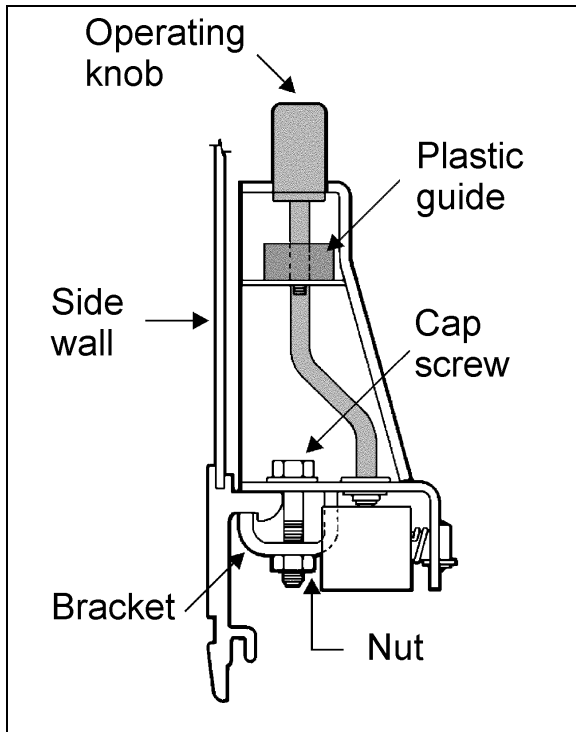

Figure 1: View of the existing mechanism. Shaded parts must be removed.
2. Lift front part of the cushions and remove them. Remove two cap screws, nuts and washers holding seat frame to side wall and retain the two holding brackets. See figure 1.
- Remove the existing control knob, the plastic guide and the metallic rod (see shadowed parts of figure 1);